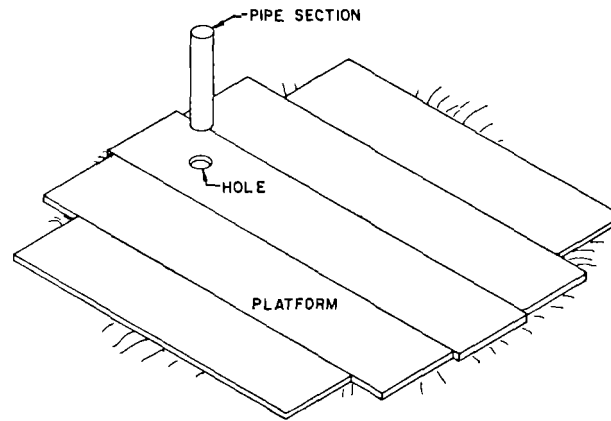

Figure 2. Locating Pipe Section
Cut a section of ninety (90) mm (3 inch) PVC pipe and place it over the hole in the platform as in Figure 2. For shallow-set and medium-set pumps, the pipe section is thirty-five (35) cm long and for deep-set pumps it is fifty (50) cm long. The pipe section serves as a concrete form during construction and a water barrier during operation. If well casing is used, the PVC pipe section is unnecessary.